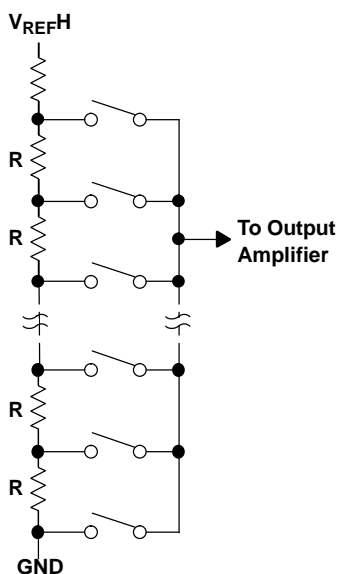

Figure 2. Typical Resistor String
The resistor string section is shown in Figure 2. It is basically a divide-by-2 resistor, followed by a string of resistors, each of value R. The code loaded into the DAC register determines at which node on the string the voltage is tapped off to be fed into the output amplifier by closing one of the switches connecting the string to the amplifier. Because the architecture consists of a string of resistors, it is specified monotonic.
- Acknowledge: Each receiving device, when addressed, is obliged to generate an acknowledge after the reception of each byte. The master device must generate an extra clock pulse that is associated with this acknowledge bit. A device that acknowledges must pull down the SDA line during the acknowledge clock pulse in such a way that the SDA line is stable LOW during the HIGH period of the acknowledge clock pulse. Of course, setup and hold times must be taken into account. A master must signal an end of data to the slave by not generating an acknowledge bit on the last byte that has been clocked out of the slave. In this case, the slave must leave the data line HIGH to enable the master to generate the STOP condition. Figure 2 details how data transfer is accomplished on the I²C bus. Depending upon the state of the R/W bit (see Figure 5), two types of data transfer are possible: